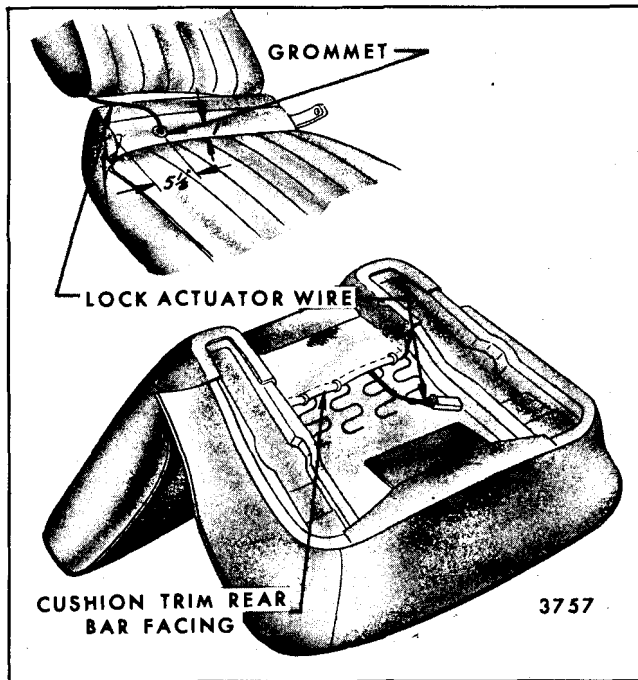

Fig. 14-50-Electric Seat Back Wire Routing through Seat Cushion-Strato Seats
2. On styles with electric actuated seat back locks remove hog rings securing seat cushion trim rear bar facing under seat (see Fig. 14-50) turn back cushion trim rear bar facing sufficiently to feed the seat back lock wire up through the grommet
in the top of the cushion trim rear bar facing (see Fig. 14-50).